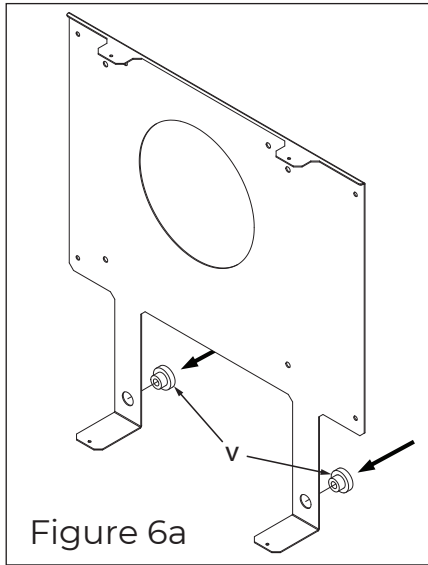

Figure 6a
3. Insert the two provided rubber grommets (v) into the lower bracket as shown in figure 6a. Place the hanging bracket over the square hole. Check to see the bracket is level. After leveling the hanging bracket, mark the four holes as shown in figure 6b.